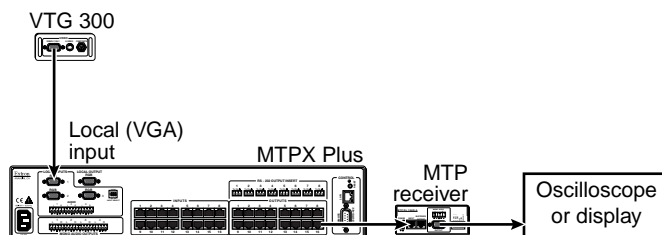

Figure 5-21 — Connections for setting the receiver's level/peaking
1. If using an oscilloscope, apply a white field test pattern to one the local (VGA) inputs on the MTPX Plus (figure 5-21).